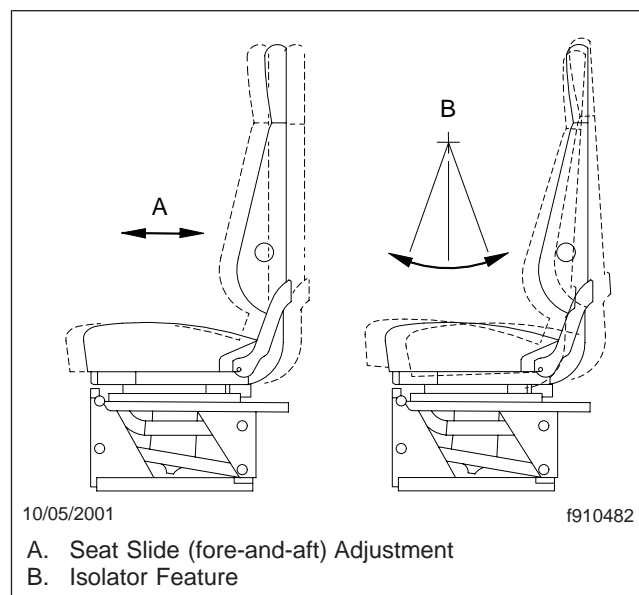

Fig. 5.6, Seat Slide Adjustment and Isolator Feature
1. **Seat Slide (fore-and-aft):** When this adjustment is made, the entire seat moves forward or backward on its track (Fig. 5.6).
2. **Isolator:** This feature (also referred to as backslap isolator or Chugger-Snubber®) reduces the amount of road shock by isolating the occupant from the motion of the vehicle, and allowing the upper seat to move in a simple pendulum motion. Whenever the isolator is not desired, it can be locked out (Fig. 5.6).